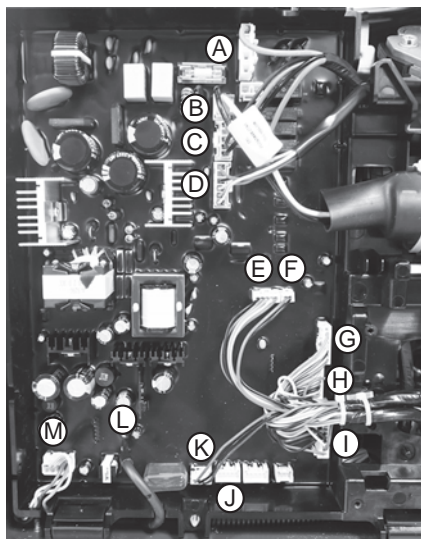

Figure 52 - Wiring harness connection points.
- 17** Using Figure 52, remove harnesses E - I and K.